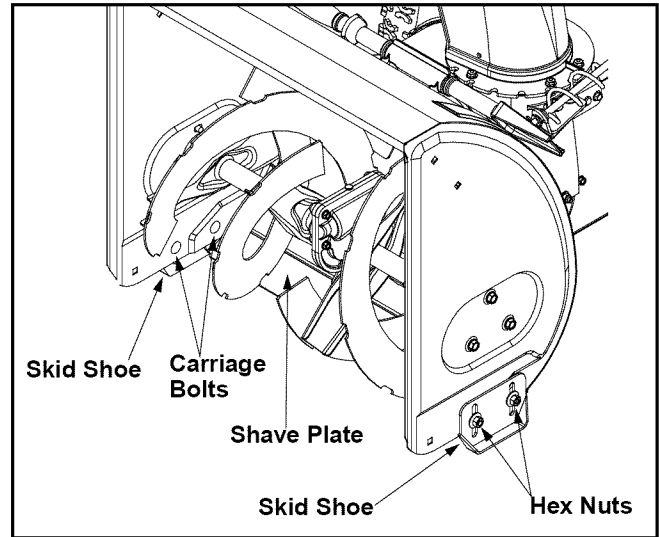

Figure 14
- To remove skid shoes, remove the four carriage bolts, cupped washers and hex nuts which attach them to the snow thrower. Reassemble new skid shoes with the four carriage bolts, cupped washers (cupped side goes against skid shoes) and hex nuts. See Figure 14.